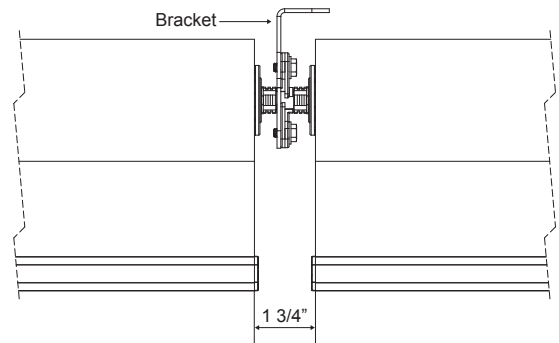

Fig. 8
- 9 Lower shades all the way down until the hembar is about 1/4" from the sill. Ensure that the idler pin is all the way in the bracket and check each axle. The spacing between fabrics should be 1 3/4". If installing multi-banded shades, make sure the axle clips are tight to plastic plug to keep tubes from moving together or the idler pin coming out, which is usually the center groove. (Fig. 8)